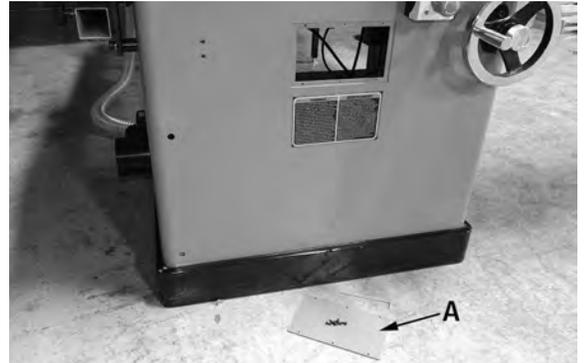

FIGURE 31
6. Once the sliding table is flush and the proper gap has been set, the sliding table now needs to be secured to the cabinet. Remove side panel (A) Fig.31 to gain access to the inside of the cabinet. Secure sliding table using the 4 washers and hex. nuts removed previously.